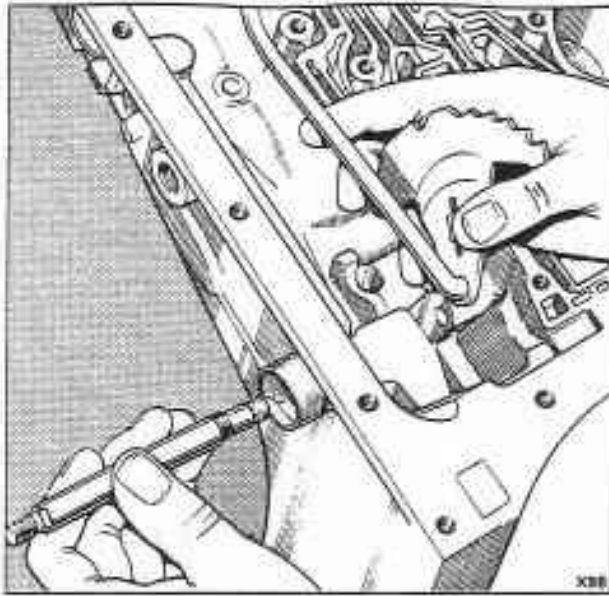

Fig. T18-4 Fitting the manual shaft
8. Lubricate the manual shaft with Shell Retinax A grease. Fit the shaft into the case and through the detent lever (see fig. T18-4).